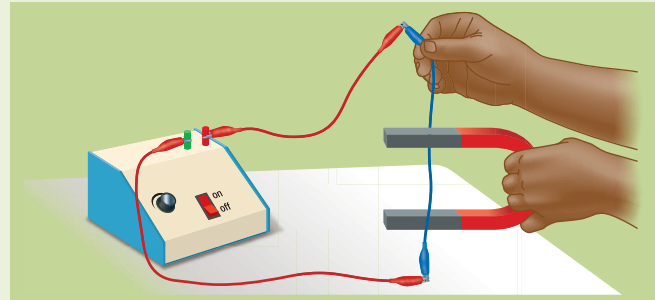

Figure 3 Recreating Faraday's experiment
1. Connect the equipment as shown in **Figure 3**.